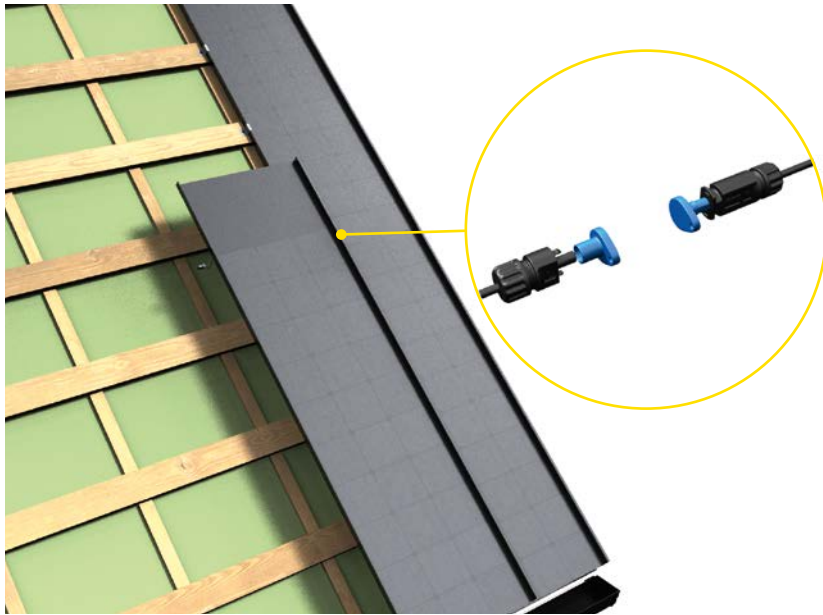

Fig. 15
4.1 Once first column is fastened on the roof, **second and the rest of the columns are fastened after junction cable are connected** (Fig. 15), and the locks are seamed by first using first hand tool (Fig. 16 a), and double lock by using the second hand tool (Fig. 16 b).